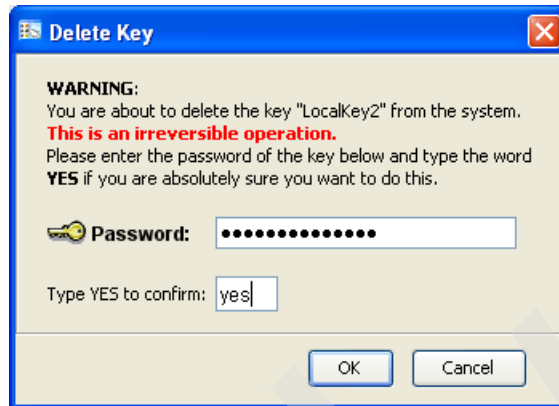

Figure 12-70 Delete key password entry
4. In the panel in Figure 12-70, type yes to confirm and click **OK**.